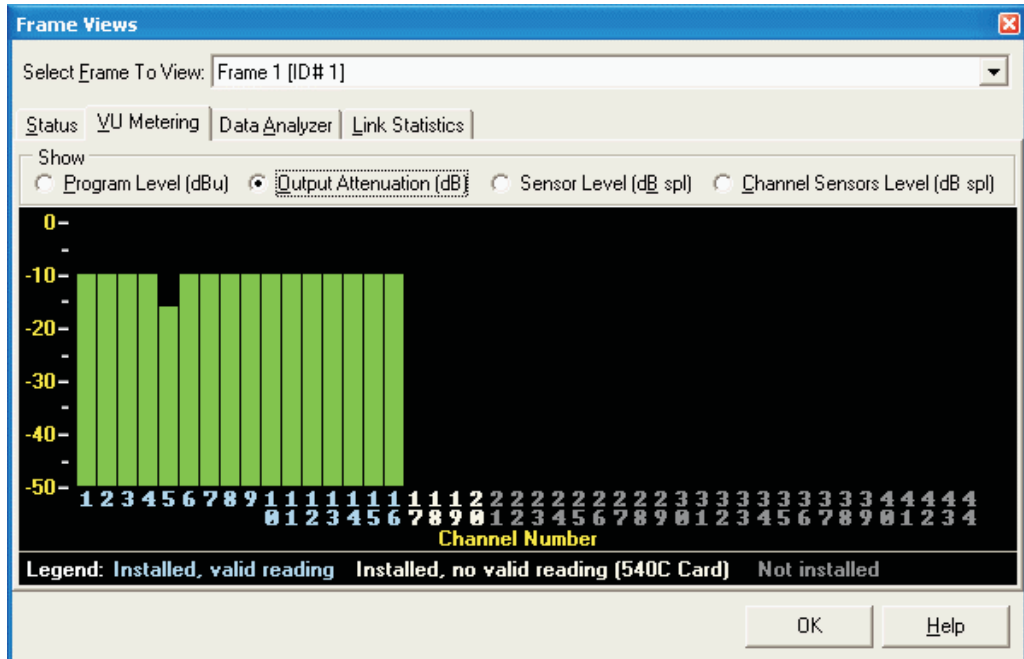

Figure 43 - Frame Views 3
- **Output Attenuation** is the channel's output attenuation. See Figure 43.